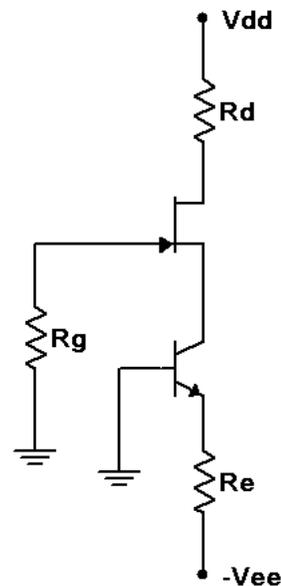

Figure 4
9. Consider the circuit of Figure 4 using  $V_{dd} = 15$  volts,  $V_{ee} = -5$  volts,  $R_d = R_e = 4.7 \text{ k}\Omega$  and  $R_g = 330 \text{ k}\Omega$ . Calculate and record the expected voltages for JFET 1 in Table 6. Also record the expected drain current in Table 7.
10. Build the circuit of Figure 4 using  $V_{dd} = 15$  volts,  $V_{ee} = -5$  volts,  $R_d = R_e = 4.7 \text{ k}\Omega$  and  $R_g = 330 \text{ k}\Omega$ . Measure and record the voltages for JFET 1 in Table 6. Based on  $V_D$ , compute and record the experimental drain current in Table 7. Also find and record the drain current deviation.
4. In general, identify two ways of increasing the drain current in the circuit of Figure 4.